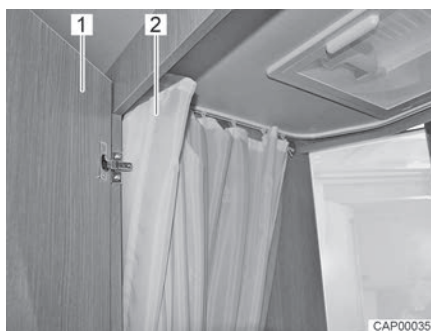

Fig. 81 Toilet compartment with shower
- For showering, close the door (Fig. 81,1) and completely close the shower curtain (Fig. 81,2) so that all walls are protected.